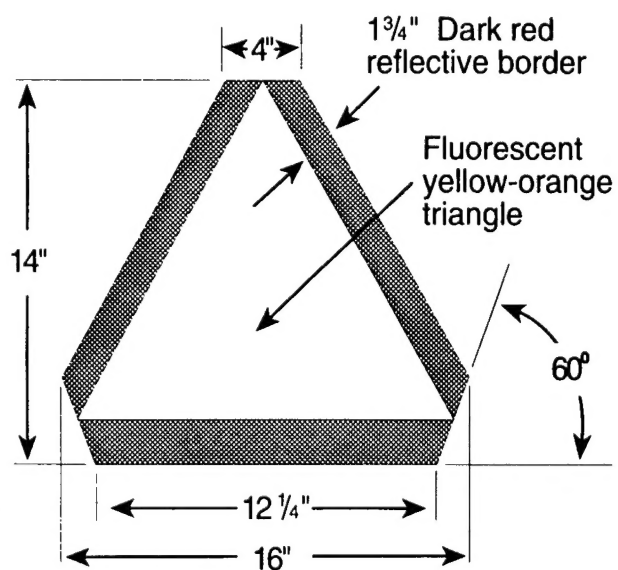

Figure 5. Example of a sign for a slow-moving vehicle
■ **Design.** These signs consist of a fluorescent, yellow-orange triangle with a dark red reflective border. The fluorescent triangle is a highly visible color for daylight exposure. The reflective border defines the shape of the fluorescent color in the daylight and creates a hollow, red triangle in the path of motor vehicle headlights at night. (Figure 5 is an example of a sign for a slow-moving vehicle.)